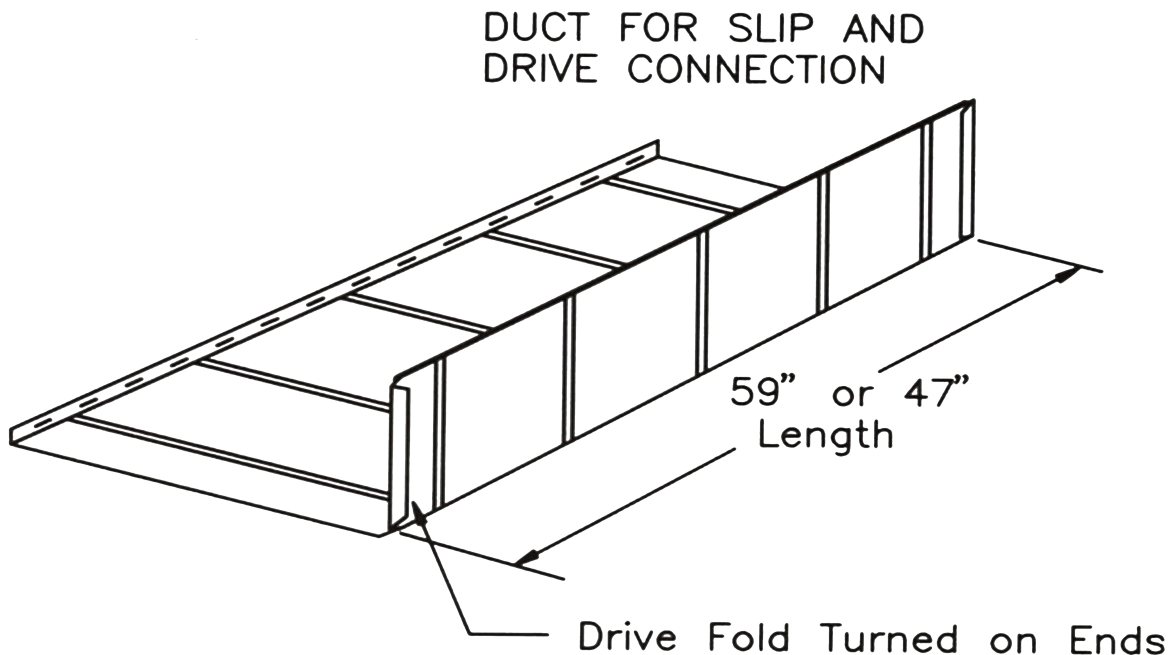

Figure 15. Rectangular duct half section
Pre-manufactured rectangular ducts are shipped in two L-shaped half sections (Figure 15). They are available in various lengths, 60 in. being most common. The two L-shaped half section are assembled using the two longitudinal button snap lock seams. Notice the two short sides have their ends turned over to create a Drive (hem)fold. Whereas the two long sides have raw edges.
- Figure 15. “Rectangular duct half section” from ECCO Manufacturing is used and adapted for educational purposes under the basis of fair dealing.